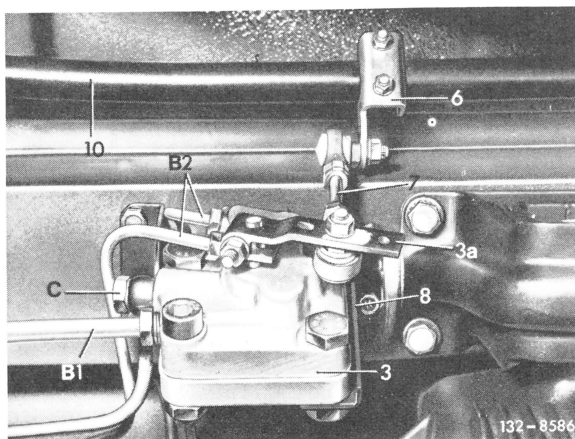

Fig. 1
2 On vehicles with level control, separate connecting rod (7) for level control (3) from the lever (6) on the torsion bar (Fig. 1).
a) Hook connecting rod (7) to the lever (6) on the torsion bar (Fig. 1).